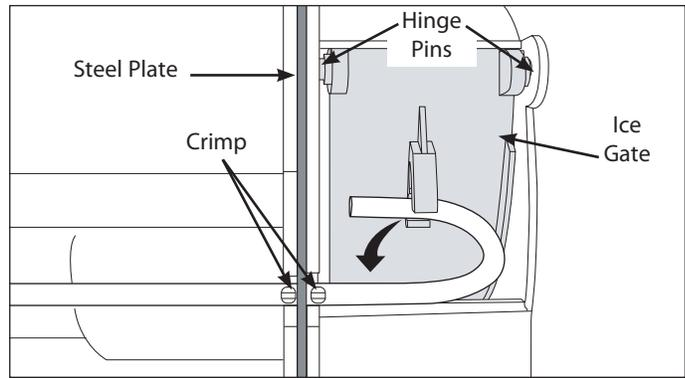

Figure 6-92.
3. Extract the two screws securing the control rod to the bottom of the ice bin container. Remove control rod from steel plate by pressing in on the ice gate and rotating the control rod out from under the arm of the ice gate. Rotate control rod until the crimps line up with the slot in the steel plate, then slide control rod out from steel plate. (See Figure 6-92)